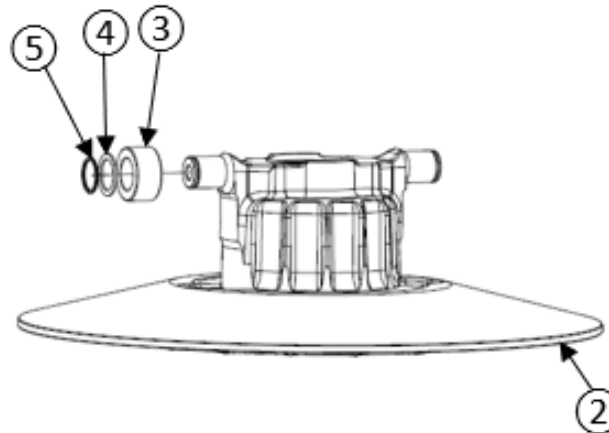

Figure 28
- Insert the 2 rollers ③, the 2 washers ④ and the 2 external retaining rings ⑤ on the roller pins of the sliding sheave ② (see figures 28 and 29).